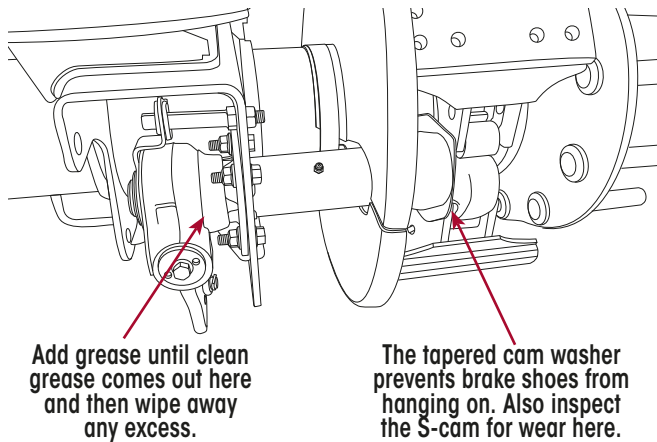

Figure 76: INTRAAX S-Cam Lubrication & Inspection
13. Lubricate the single, centrally located grease fitting (refer Figure 76) with EP NLGI #2 grease as follows: